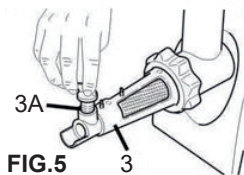

FIG.5
At this point, screw the plastic adjusting screw (3A) into the appropriate seat on the sieve (fig. 5) and position the tray (4) on the feed channel.